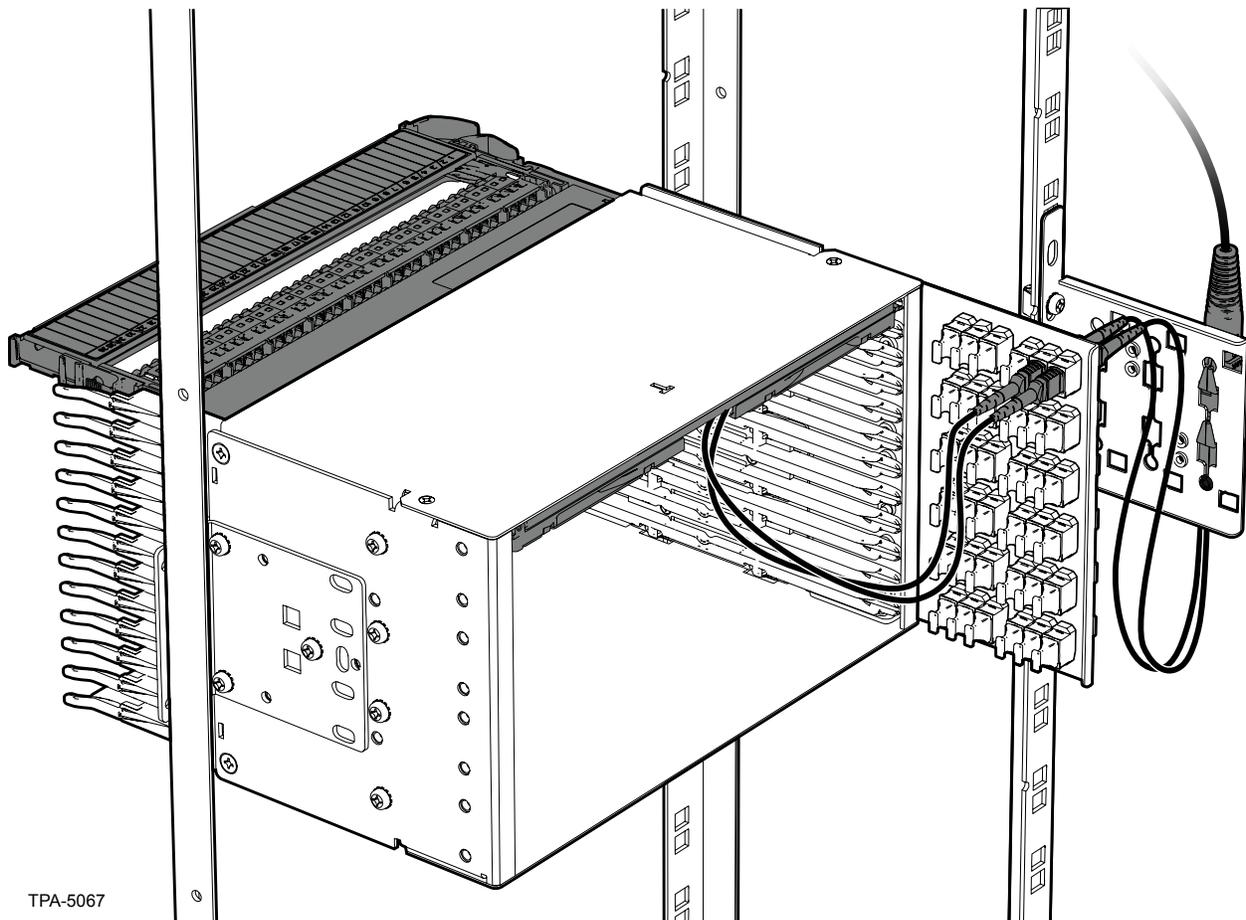

Figure 6
- Step 11:** Mate connectors into the adapters in the order listed on the bracket (Figure 6).